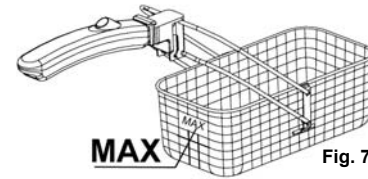

Fig. 7
- Do not fill the basket higher than the MAX line on the basket with frozen food. (Fig. 7)